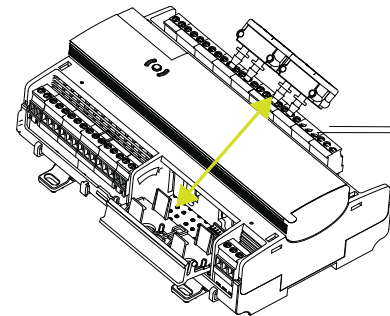

Fig. 7 Replace the Airflow Sensor
2. Extend all red mounting clips to the unlock position as shown in figure 7.